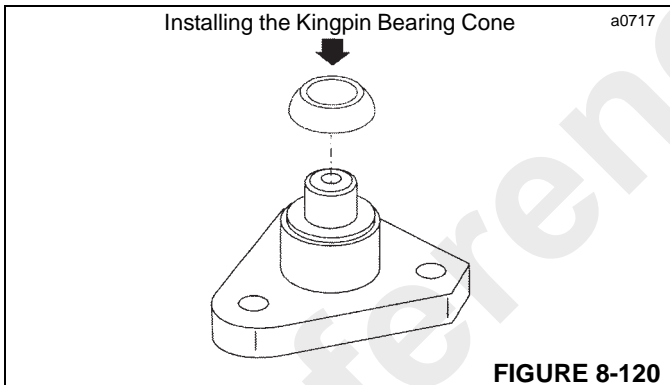

FIGURE 8-120
- Place the lower kingpin on a workbench and install the bearing cone (Figure 8-120) with SPECIAL TOOL (Figure 8-33), using a press.